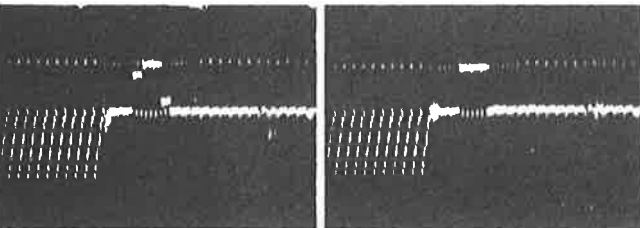

Fig. 25—Vertical Detail Level
- 4. Adjust R3317 so that the pulse level matches before and after transition from vertical equalizing pulses to vertical sync pulses see Figs. 25 & 27.